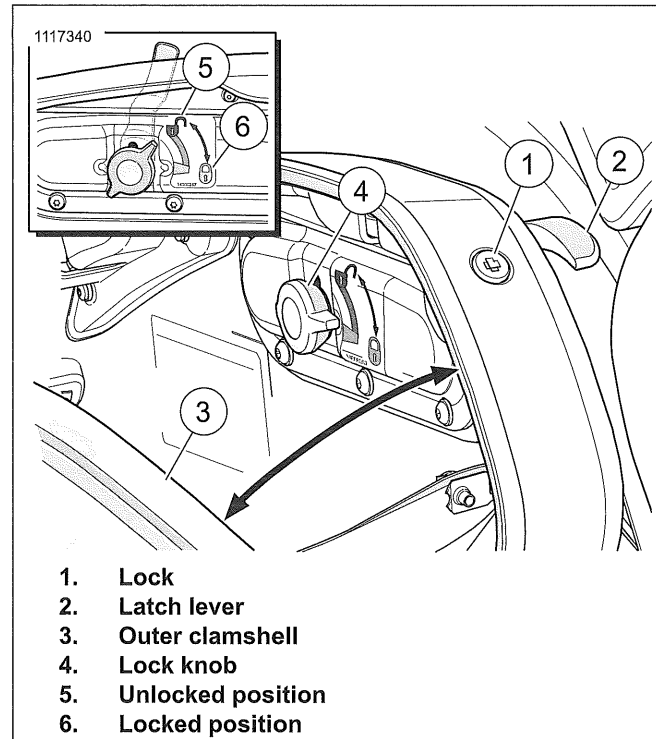

Figure 3-150. Saddlebag Lock Knob
1. See Figure 3-150. Remove saddlebag.
- a. Open saddlebag outer clamshell (3).
- b. Pull out and turn lock knob (4) to the unlocked position (5).
- c. Close saddlebag outer clamshell and lower latch lever (2).
4. See Figure 3-150. Install saddlebag.
- d. See Figure 3-150. Rotate lock knob to the locked position (6) until a click is heard. Without pulling out on the knob, verify that knob cannot rotate back to the unlocked position.